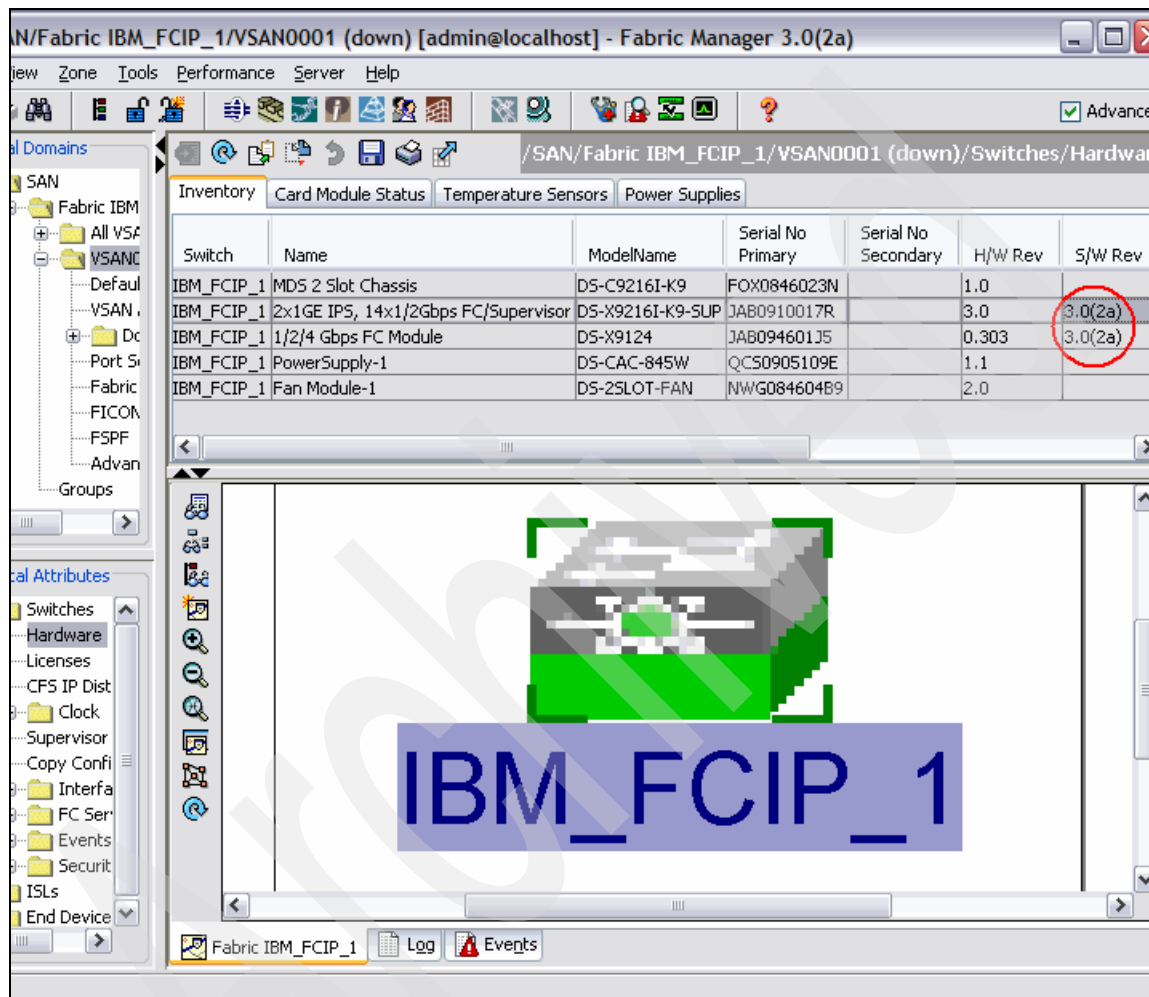

Figure 11-28 Verifying the software update
13. To verify the updates, select **Switches** → **Hardware** from the Physical Attributes pane and look in the pane above the SAN map, as shown in Figure 11-28. Look in the S/W Rev column as indicated.